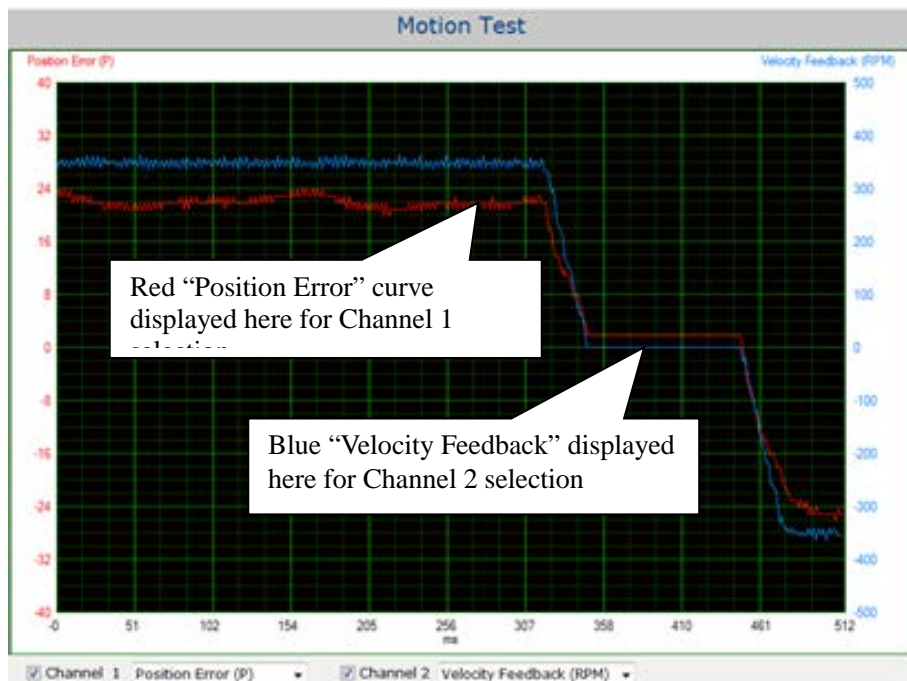

Figure 11: Scope portion of Motion Test window
- The top “Scope” (Figure 11) area of the Motion Test window contains a scope used to display colored curves based on what have been chosen on Channel 1 and Channel 2 dropdown lists during the test.